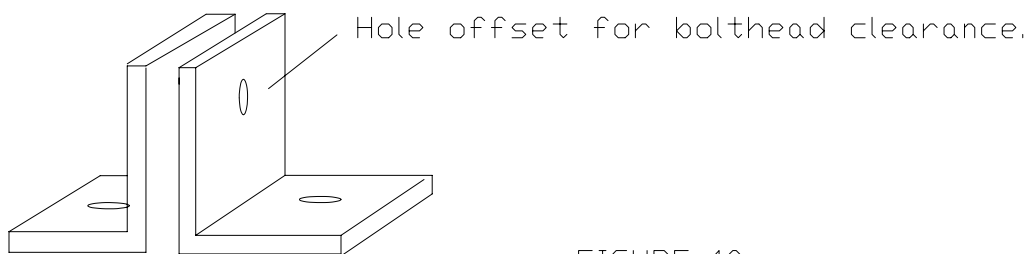

FIGURE 10
- 17) ¾” long. (Figure 10) Drill ¼” holes in the center of both web surfaces. Offset one hole closer to the top for bolt head clearance.